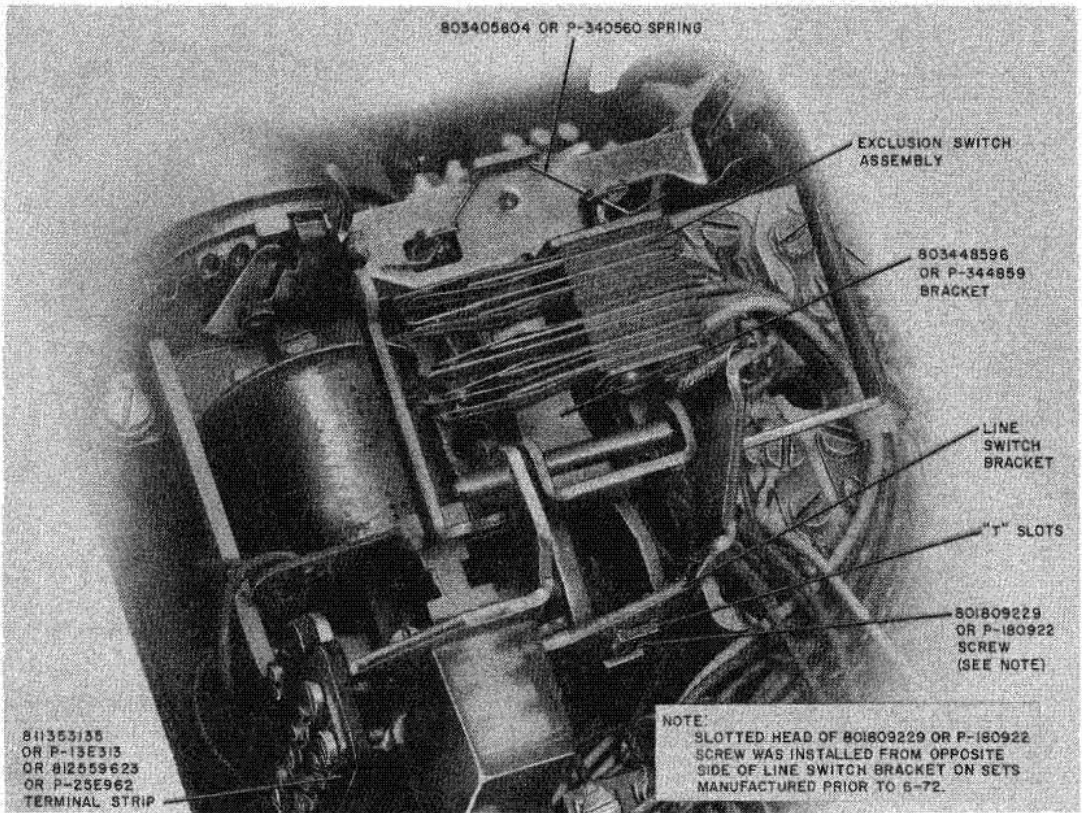

Fig. 6—D-179935 Exclusion Kit, Installed
- (1) Insert the 803448596 (P-344859) bracket into the two T slots precut in the line switch bracket (Fig. 6).
- (2) Tighten the 801809229 (P-180922) screw which holds the bracket in the T slots.
- (3) Mount the exclusion switch assembly on the bracket (Fig. 6) and fasten in place using the 803405604 (P-340560) spring.
- (4) Remove the 811359538 (P-13F953) plunger from the left side of the telephone set housing and replace it with the 811416130 (P-14A613) exclusion plunger.
**2.27** These auxiliary terminal strips are attached to the line switch bracket as shown in Fig. 6.